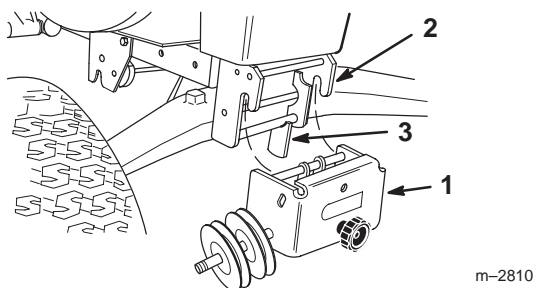

Figure 7
10. Place pulley assembly into front hitch and lock by moving latch rearward (Fig. 7).